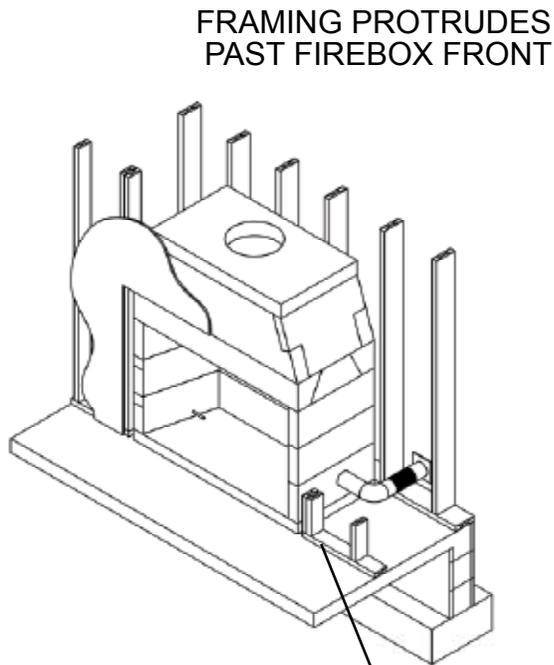

FIGURE 24
STANDARD Series fireplaces are designed to be installed so that the rough front face of the firebox and smoke dome sit flush to the room face of the rough framing members that create the room wall finish. (Figure 24)
**Clearance to Drywall:** Drywall can be placed directly in contact with the front of the firebox and smoke dome. (Figure 24) Drywall can be hung on the framing members and pass across the face of the smoke dome and in contact with it. If necessary, the drywall can be affixed to the face of the Standard Series fireplace with drywall screws, maximum length 1" - do not use nails. The drywall must be cut back a minimum of 2" from the sides of the firebox opening and 8" back from the top of the firebox opening.